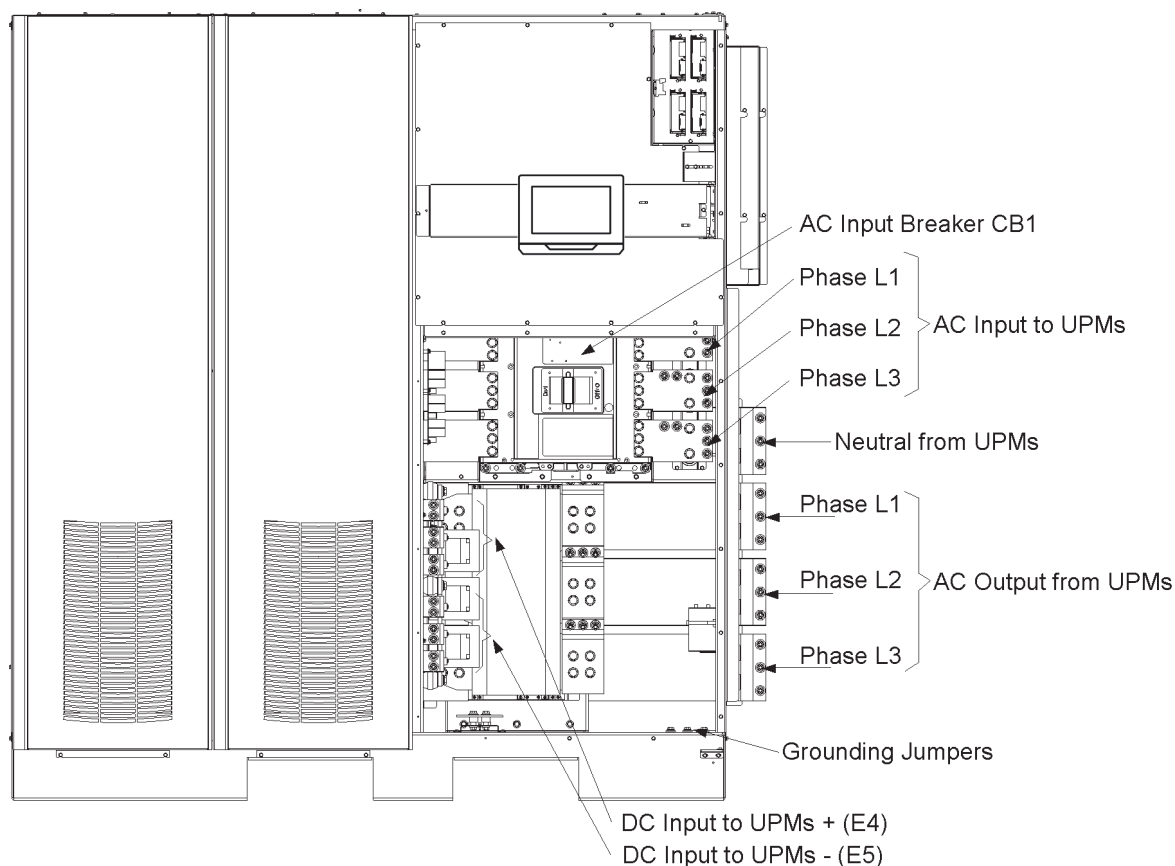

Figure 4-6. UPS ISBM section inter-cabinet power terminal locations
5. Locate the CB1-2/UPMx, CB1-4/UPMx, CB1-6/UPMx power wiring harnesses. Route these harnesses through the wiring access in the right side panel of the ISBM section to the AC Input to UPMs terminals. See Figure 4-6 on page 42 for terminal locations.
8. Locate the E4/UPMx and E5/UPMx power wiring harnesses. Route these harnesses through the wiring access in the right side panel of the ISBM section to the DC input to UPMs terminals. See Figure 4-6 for terminal locations.
10. Locate the E12/UPM_x, E9/UPM_x, E10/UPM_x and E11/UPM_x power wiring harnesses. Remove wire ties as necessary to enable routing cables to the ISBM AC output from UPMs terminals. See Figure 4-6 for terminal locations.